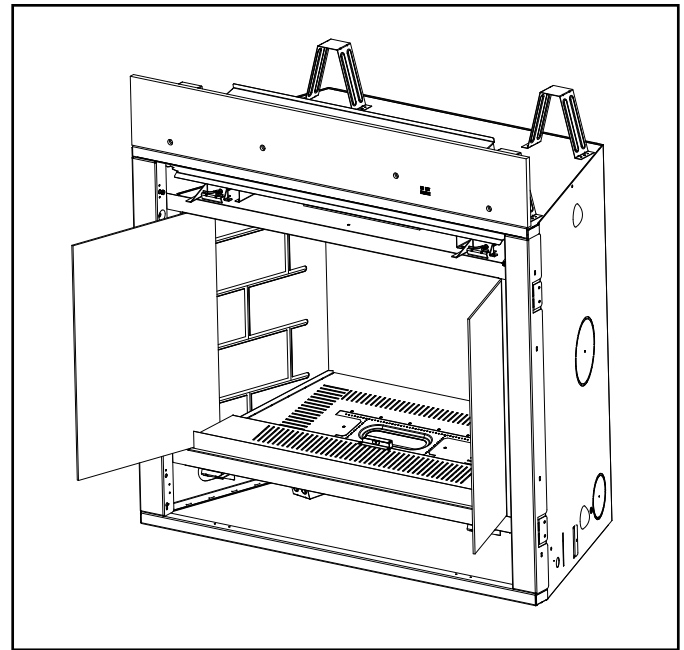
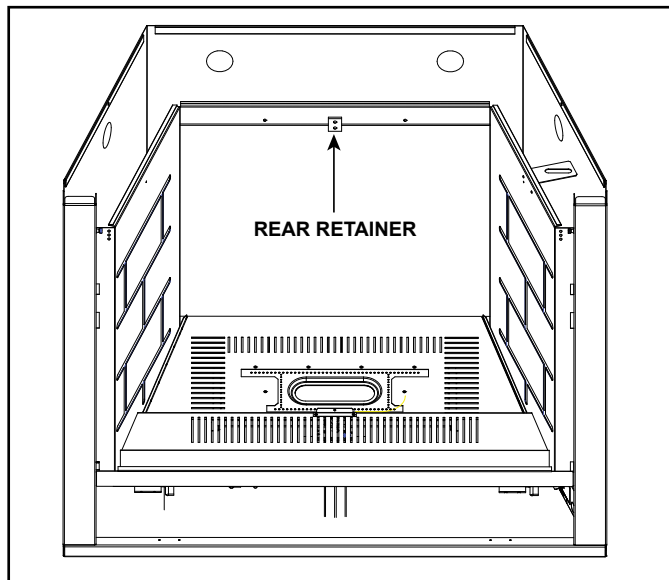
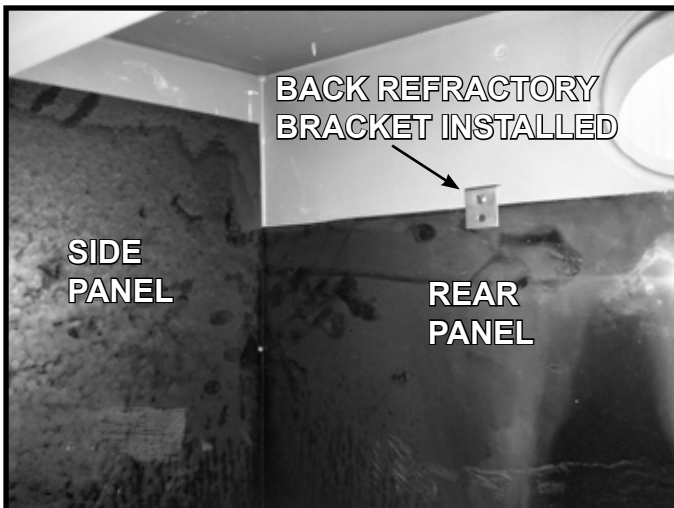

Figure 11.4 Install Side Glass Panels
Figure 11.2 Install Rear Retainer
Figure 11.3 Side Panel Flush with Rear Panel
1. Install the rear glass panel as shown in Figure 11.2. The panel retainers and screws are included in the appliance manual bag. Attach as shown in Figure 11.3.
2. Slide the side glass panels in positions as shown in Figure 11.4. Center the glass retainers and screw to the firebox using 1 self tapping screw per retainer, similar to installation shown in Figure 11.3.